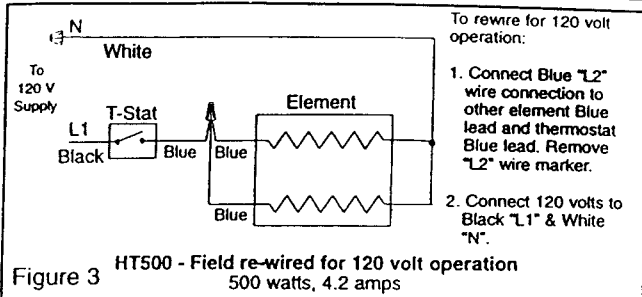

Figure 3
4. To operate the heater at 120 volts requires the heater to be re-wired as shown in Figure 3 by connecting blue L2 lead wire to wire connection of the other element blue lead wire and thermostat blue lead wire. Remove the L2 wire marker. Connect 120 volts to the black L1 lead and the white N lead. See Figure 3.